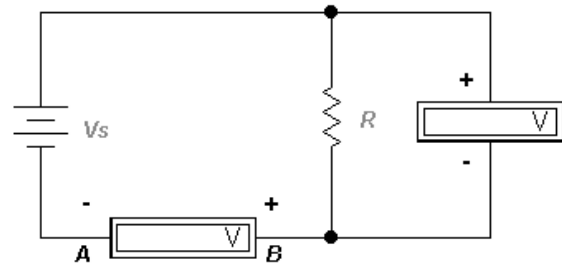

Figure 3-2
In the measuring of current, the meter must always be inserted into the circuit in such a manner that the current to be measured will flow through the meter (this is often referred to as a series connection.) You must break the circuit to perform a current measurement (see Figure 3-2). If you have not broken the circuit to insert the ammeter, then it is probably not in place correctly. Once correct polarity: the most positive point should be connected to the red terminal when the function switch is set to +dc.
7. Now break the circuit as shown in Figure 3-2 and insert the other VOM set on the 10 mA current range. (Once again insure that polarity is correct before connecting.)